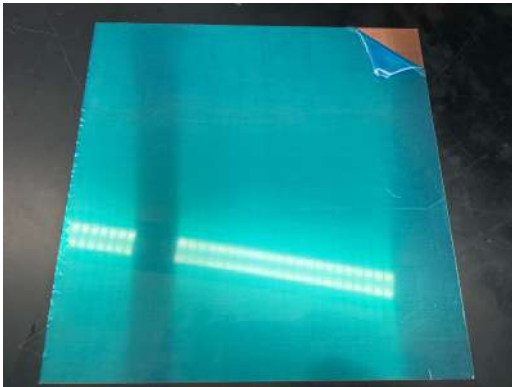

Figure 1: Uncut 1' x 1' copper sheet
1. Starting from the 1' x 1' copper sheet illustrated in figure 1, on the metal shear in the TEAM Lab, cut a piece to 130.58cm tall.